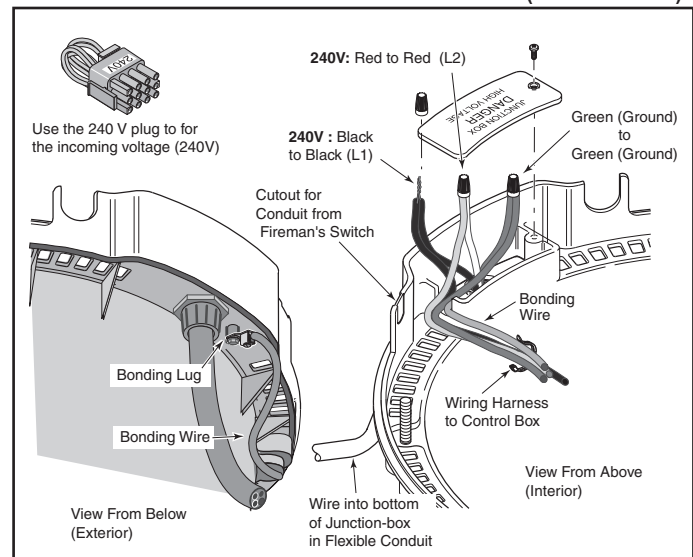

Figure 27.
8. Connect the **L1** of the power supply to the **Black** wire, the **L2** or neutral lead to the **Red** wire, and the **Ground** wire to the **Green** wire. A time clock controlling the filter pump should have a low-voltage Fireman's Switch that switches off the heater at least 15 minutes before shutting off the pump, see Figure 27. Always use crimp type connectors when connecting two wires.